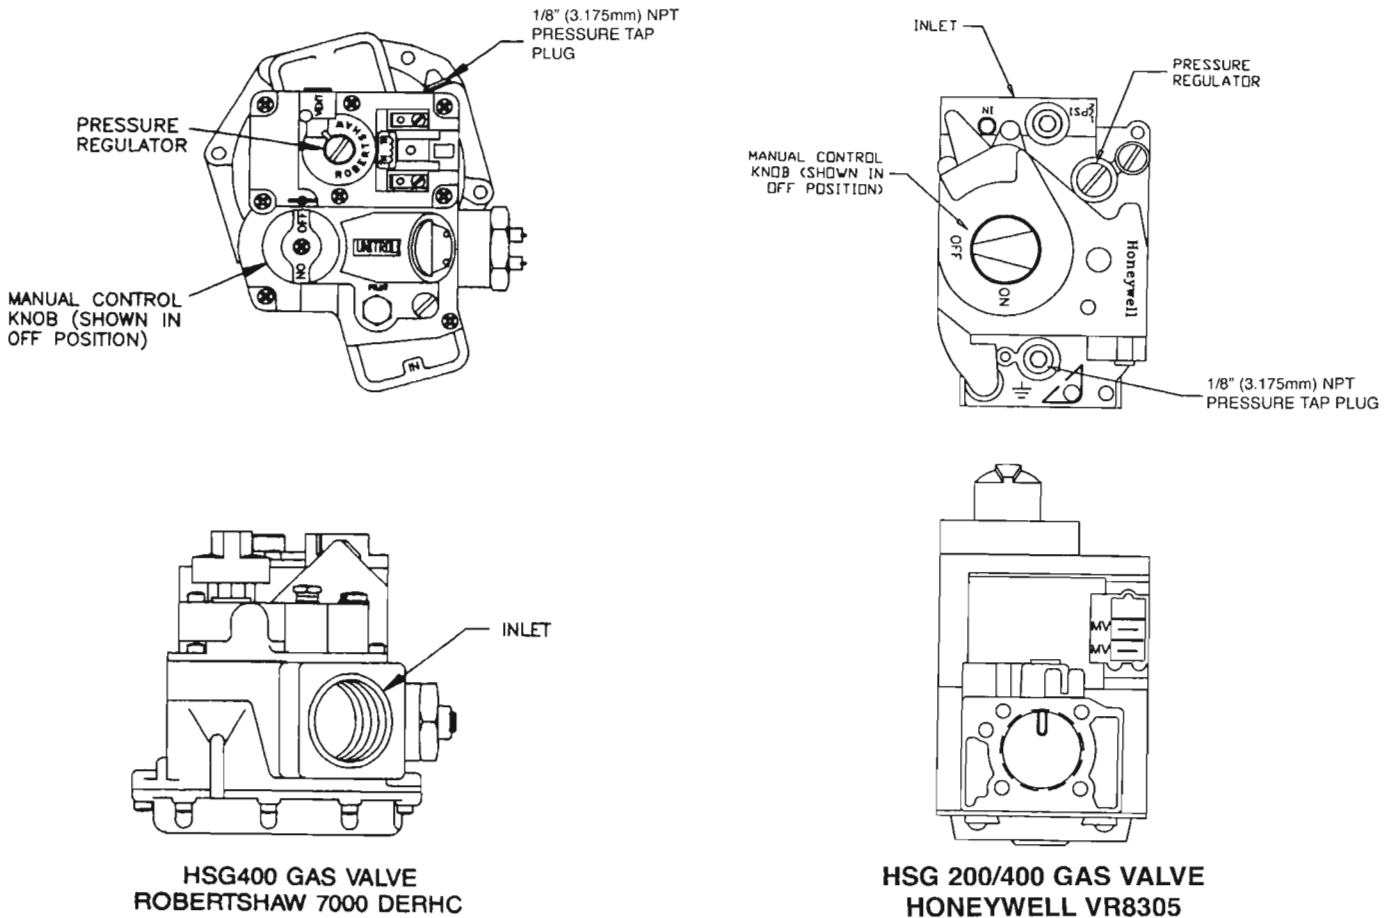

Figure 11
The 24 VAC combination gas valve serves three (3) functions: (1) manual gas shut-off, (2) main gas flame pressure regulator, (3) automatic electric redundant (double seated) gas shut off. (See Figure 11)
The 1/8" (3.175mm) NPT pressure tap for orifice manifold pressure measurement is located on the outlet side of the combination gas valve. Use a "u" tube manometer or dial type pressure gauge, scaled from "0" zero to 15.0" W.C. (3736.5Pa) to read pressure (See Figure 11).